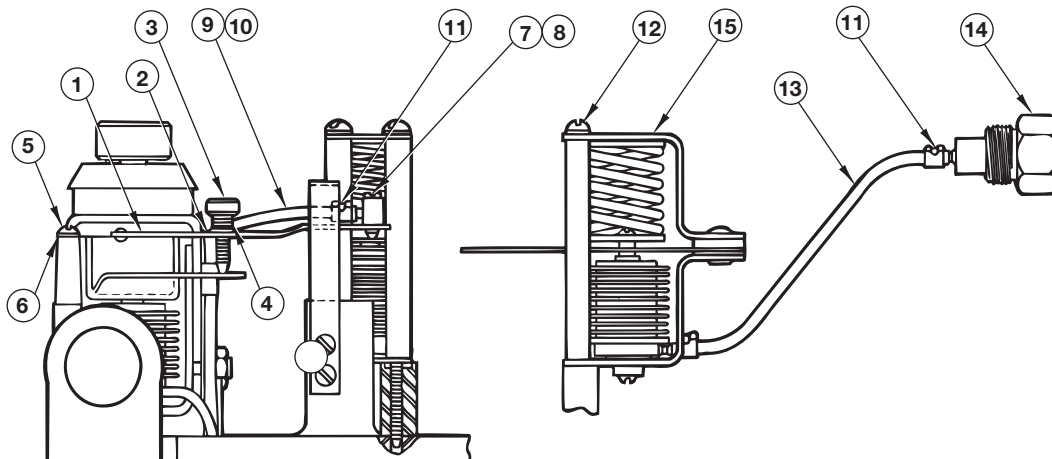

Figure 41
3.3.8 Receiver Controller Parts (See Figure 41)
3.3.8.1 Receiver Controller Replacement Assemblies (See Figure 41)